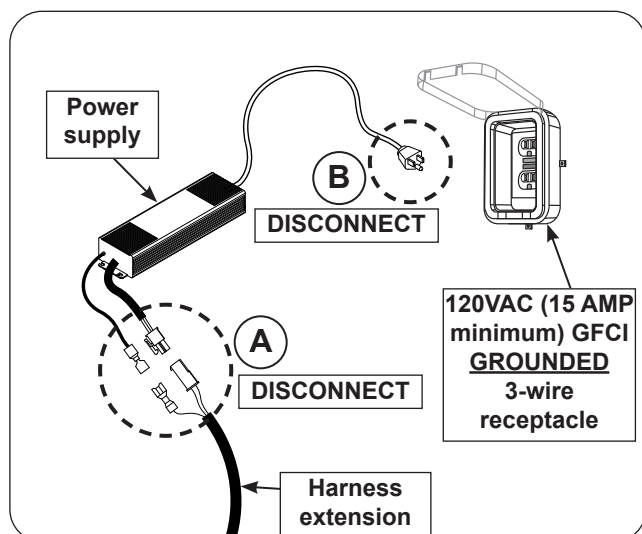

Fig. 40-4 Perform system reset
2. Disconnect the harness extension from the power supply (see Fig. 40-4, A).
3. Disconnect the power supply from the power source. (see Fig. 40-4, B).